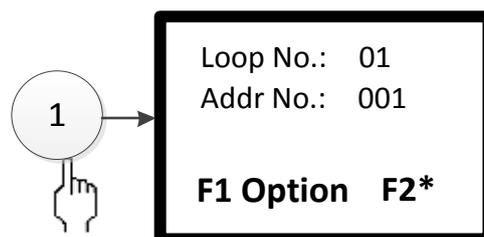

Fig. 3-16
①Address
Enter the screen as shown in Fig. 3-16 by pressing number 1 or moving cursor to select ①. In this screen, an address of any loop can be set to disable or enable. Pressing “F1” can make selections. Press Enter after selection.